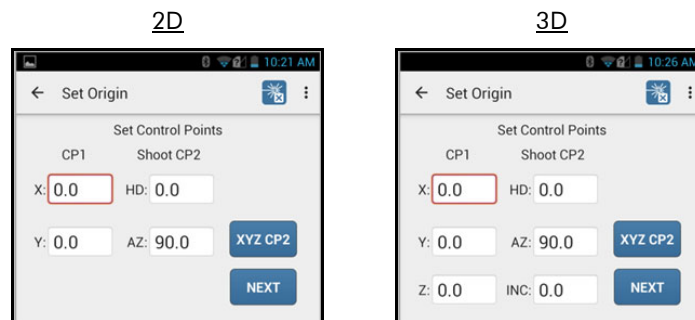

Figure 29
1. Tap [HD AZ CP2] to set CP2 using the laser to automatically enter the location. The screen will change to Figure 29.